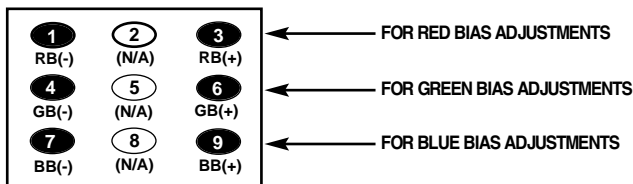

Figure 5. Remote Control Number keys' functions in Service Menu No. 73
10. Raise each Bias Level with **3**, **6**, and **9** keys to obtain just visible white line. (See Figure 5 below.)